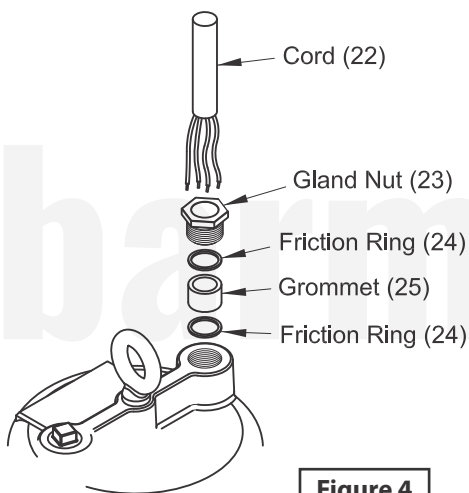

Figure 4
8. **On models 3BSE-SS (1.5 - 2 HP, 3 Ph)**, Place gland nut (23), one friction ring (24), grommet (25) and one friction ring (24) onto cord (22) and slide cord through hole in motor housing (4) (See Figure 4). Make wire connections per Figure 5.
9. **On models 3BSE-SS (1.5 - 2 HP, 1 Ph) and 3BSE-SS (3 HP)**, place all motor leads above motor. Place o-ring (18) on seal plate (3) and lower motor housing (4) onto seal plate (3).
10. Place socket head screws (17) through seal plate into motor housing and torque to 60 inch pounds.